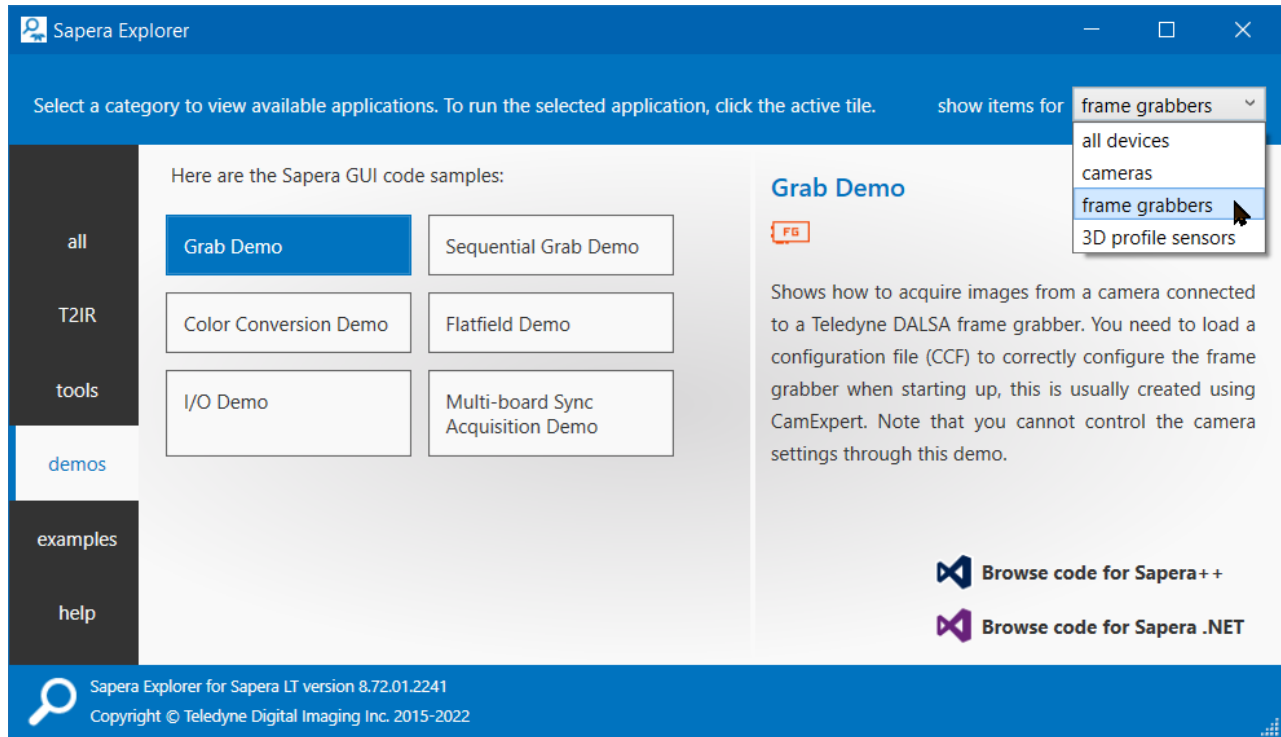

Figure 15: The Sapera Explorer application
- In **Sopera Explorer**, on the left pane select **Demos**, then double-click **Grab Demo** (see Figure 15).